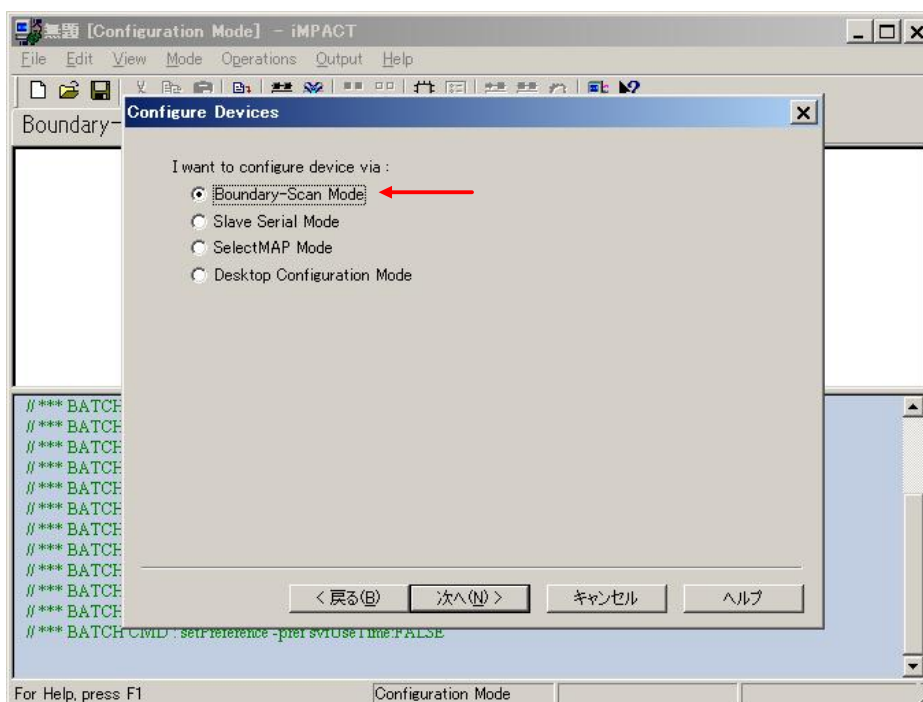

Figure.29
3) On Configure Devices select Boundary-Scan Mode and then click Next (Figure.29).